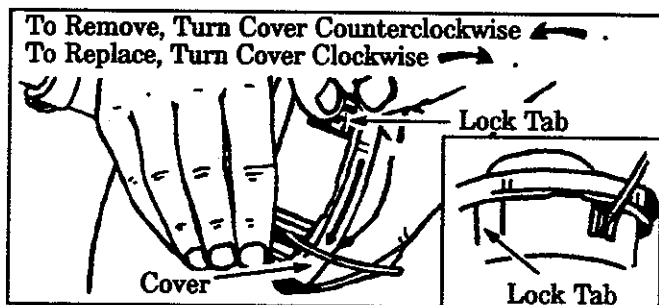

Figure 21
- a. Hold the Trimmer Head as shown in Figure 21 . Press the Lock Tab and turn Cover counter-clockwise.
- Turn Cover clockwise. Figure 21 .